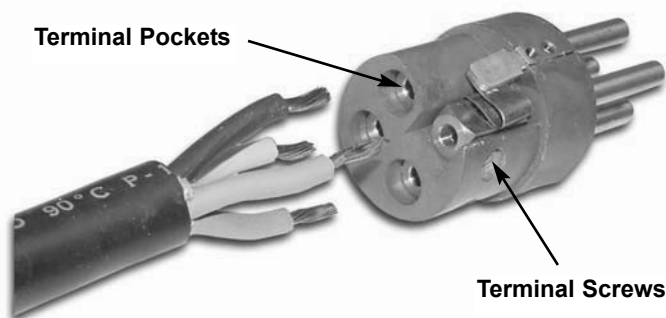

Figure 6
- Attach conductors to terminal pockets as shown in Figure 6. Torque terminal screws to 20 in/lb.